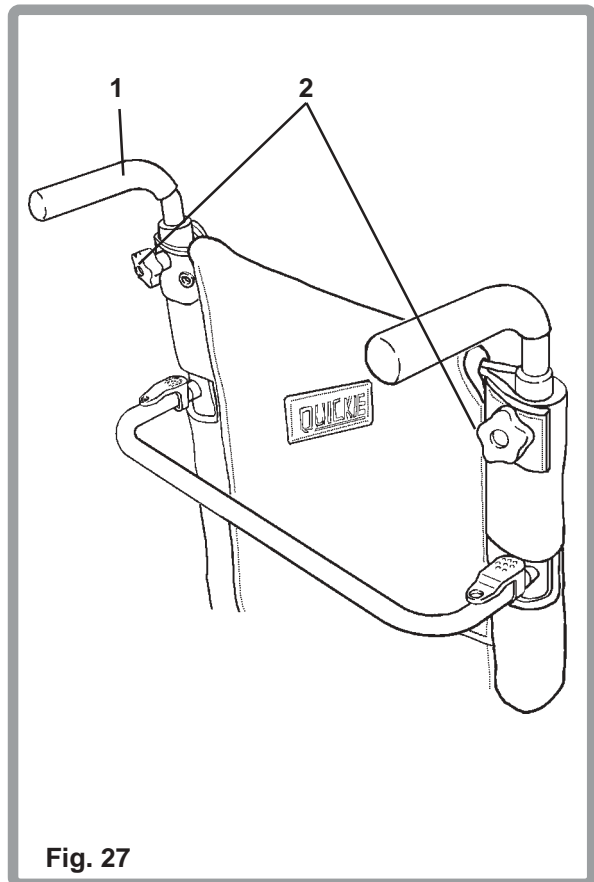

Fig. 27
To adjust the height of the push handles (1) loosen the adjustment knobs (2). Set the push handles to the required position and re-tighten the knobs (Fig. 27).